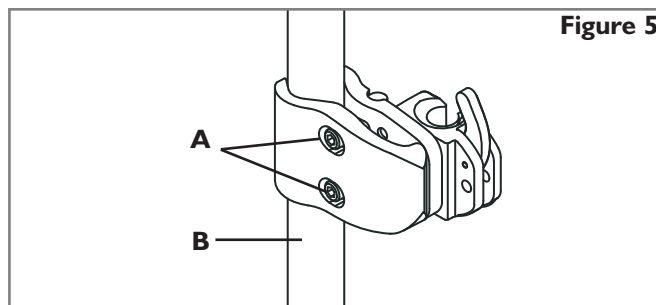

Figure 5
3. Attach the hardware receivers. (Fig. 5)
- a. Loosen the clamp screws (A) with the enclosed 4mm hex key. NOTE- For large tube diameters, clamp screws may have to be removed completely.
- b. Attach and align receiver to the wheelchair back canes (B).
- c. Hand tighten clamp screws (A). NOTE- Receivers may require additional lateral adjustment to ensure proper alignment.